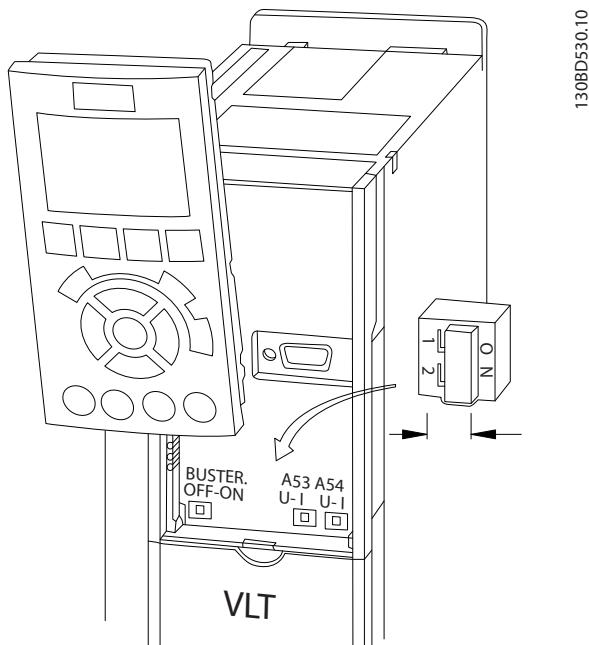

Figure 4.14 Location of Terminals 53 and 54 Switches
1. Remove the local control panel (see *Figure 4.14*).
- Terminate each segment at both ends, using either the termination switch (bus term on/off, see *Figure 4.14*) on the adjustable frequency drives, or a biased termination resistor network.